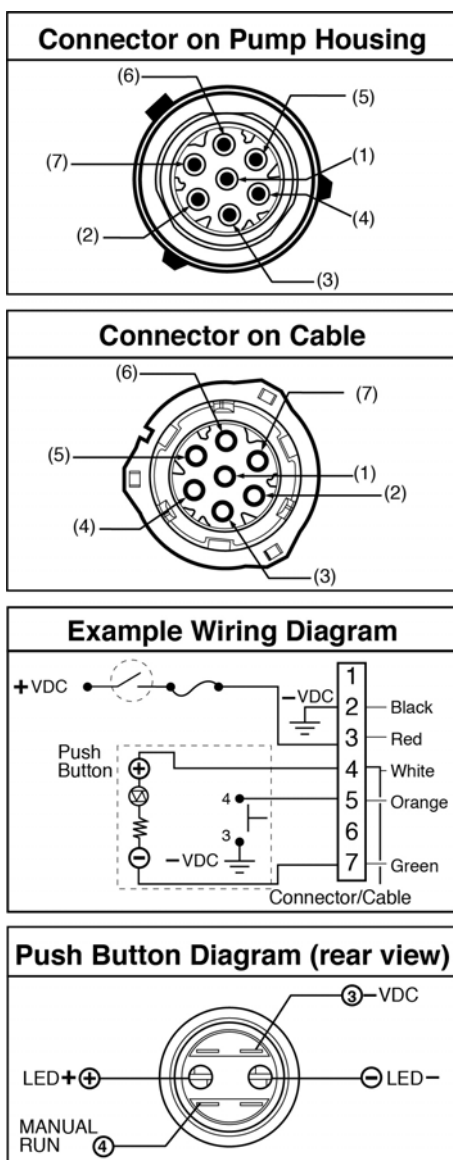

FIG. 17
5. Clean the an area close to the push button for mounting the label (55) inside cab. Adhere label to mounting surface.
6. Connect the wiring connector (52) to the push button and the pump. See Pin and Related Wire Color Table (below) and Wiring information shown in FIG. 17, page 17.
### Pin and Related Wire Color (FIG. 17)